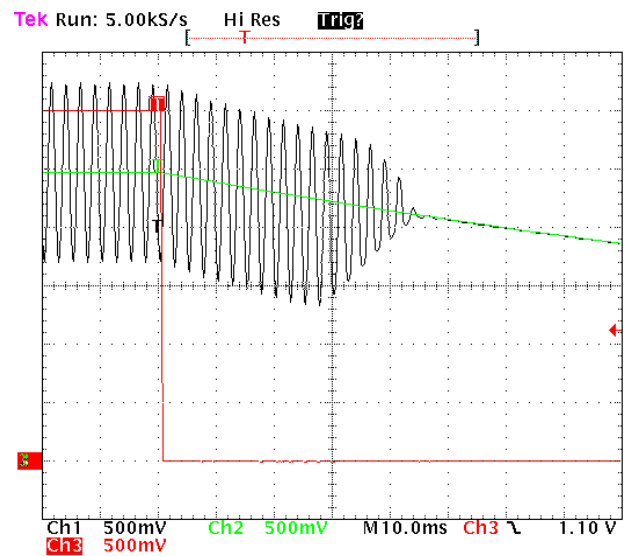

Figure 41. TurningOff Time Zoom/ $V_p = 5.0$ V and $F = 400$ Hz
– 50 ms later the audio signal is cut off as the gain is turned to zero internally as shown in Figure 41.